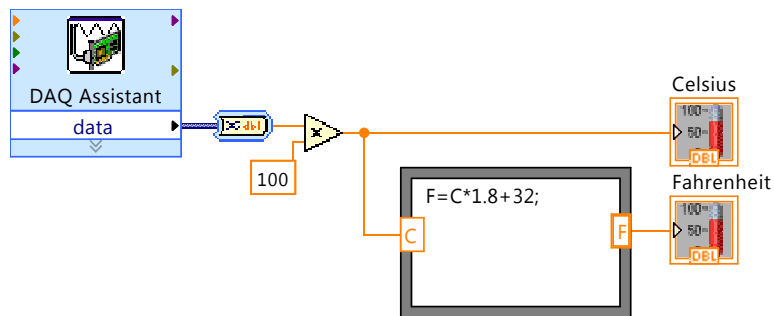

Figure 1: Block Diagram for our temperature sensor virtual instrument
- Take a minute or two to clean up your diagram. LabVIEW programs can be difficult to decode, sometimes, and neatness pays off. You can shift things a pixel at a time by selecting them and using the arrow keys, or further by using shift-arrow combinations, and of course you can also just drag them around. There are also some alignment tools at the top of the window, which work on multiple-object selections. Your block diagram should look something like figure 1.